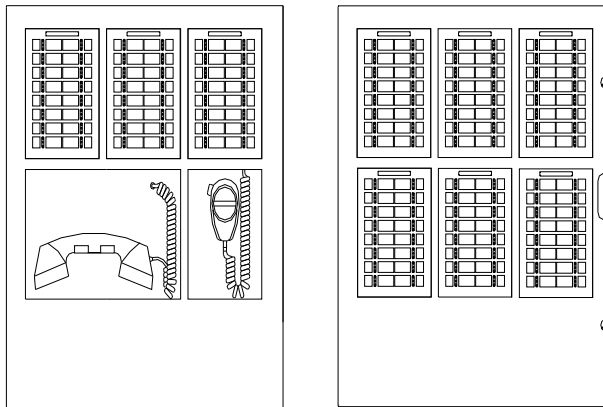

Figure 2.6.1 Typical INCC Command Center
- one (1), INI-VGC-FO or INI-VGC-UTP
- one (1), ASM-16 switch sub-assembly
- one (1), backbox
- one (1), INCC inner door
- one (1), INCC outer full plexiglas door
- The standard INCC inner door provides six (6), bays to accommodate the following units:
- up to six (6), ASM-16 or ANU-48 sub-assemblies
- one (1) NGA
- Each INI-VGC-FO or INI-VGC-UTP can support up to sixteen (16), NGA, ASM-16, or ANU-48 sub-assemblies. These additional sub-assemblies can be mounted in extra backboxes. Unused bays can be covered with blank faceplates.
- An optional fire fighter's telephone handset assembly occupies two (2), standard bays and requires the use of the INCC-T inner door, which combines two bays to accommodate the telephone assembly. See Figure 2.6.1.